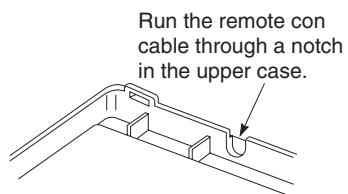

Fig. 1-99
- The wire routing at the signal receiving unit comes out of the upper case (thin portion at upper center) so use nippers or a similar tool to cut out a notch beforehand large enough for the remote control cable (option) to pass through as shown in Fig. 1-99.